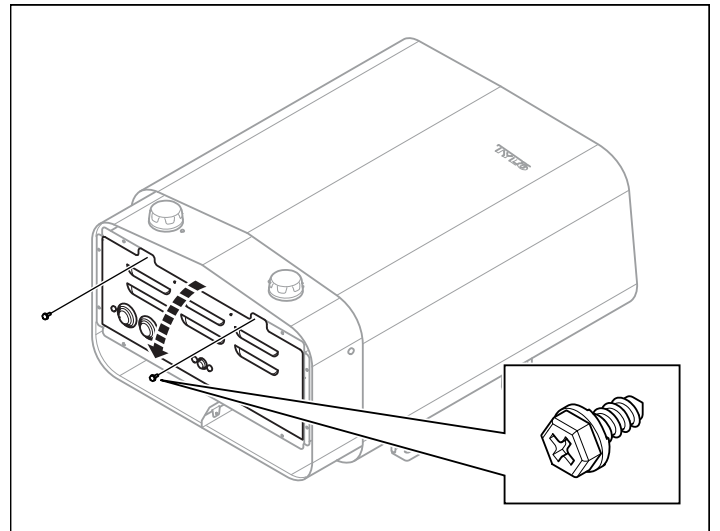

Figure 5: Opening/closing the cover
2. Slacken the screws and open the cover (see Figure 5, Page 6).
4. Close the cover and tighten the screws (see Figure 5, Page 6).